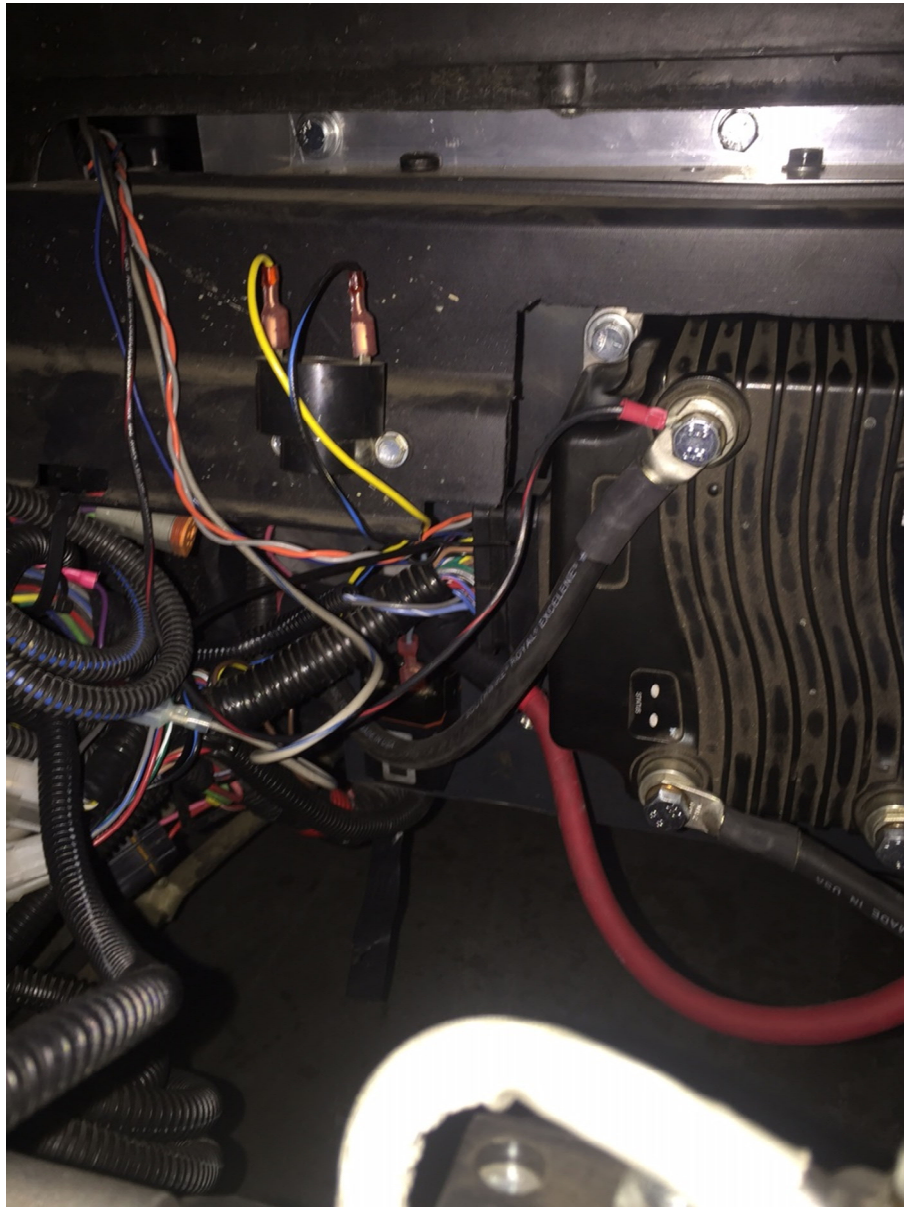

Fig. 26- Connect pack negative to B- on the controller
15. Install the pack negative (B- cable) onto the B- terminal located on the controller. (Fig. 26)